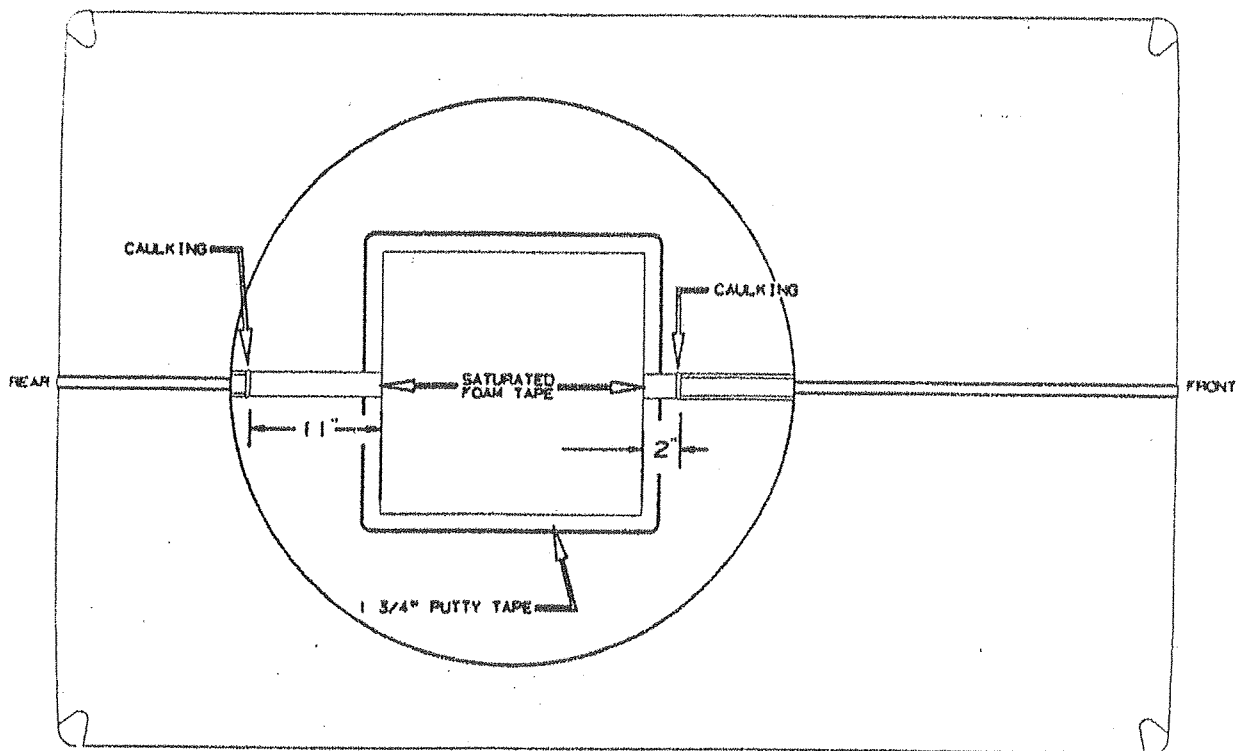

FIGURE 4
- Cut the exterior metal center seam strip 2" back on each side of the opening and refasten the trimmed end. This will allow the air conditioner unit to properly seal against the exterior portion of the top assembly. See Figure 4.
- If installing a Coleman super-mach 13.5 BTU air conditioning unit (except TSR models) cut the rear center seam strip back an additional 9". This will allow clearance for the compressor support bracket. Re-seal the exposed screw holes with silicone caulking and apply a 9" section of aluminum top trim with acrylic tape supplied. Press down on the metal strip to ensure proper seal. See Figure 4.
18. Place a bead of caulking along the cut edge of the center seam strip. See Figure 4.
19. Re-seal the exposed 2" section of the center seam with the enclosed sealant tape. Position the tape from the edge of the caulking to the edge of the cut-out opening. See Figure 4.
20. Place a strip of 1 3/4" putty tape completely around the exterior perimeter of the cut-out opening. See Figure 4.